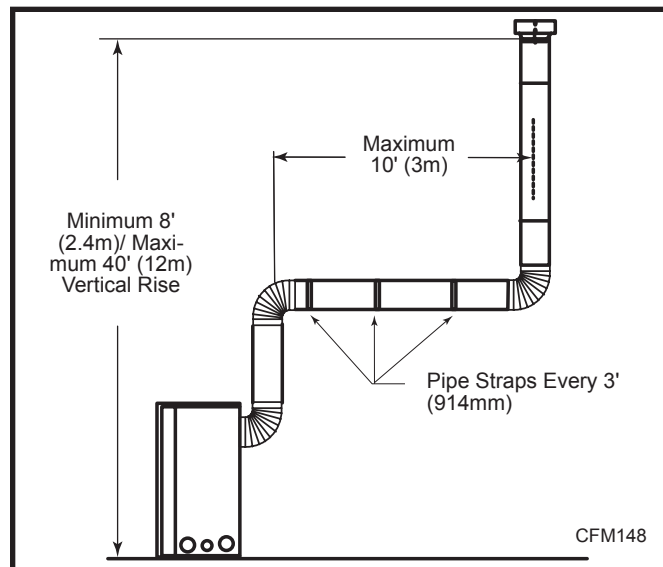

Fig. 30 Support straps for horizontal runs.
- Two (2) sets of 45° elbows offset within these vertical installations. From 0 to a maximum of 8' (2.4m) of vent pipe can be used between elbows. (Fig. 30)